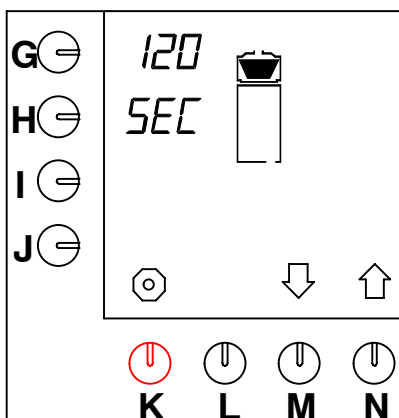

Fig. 47 Dripping-on time
- Press selection key (N.)↑ until fig.47 appears on the display.